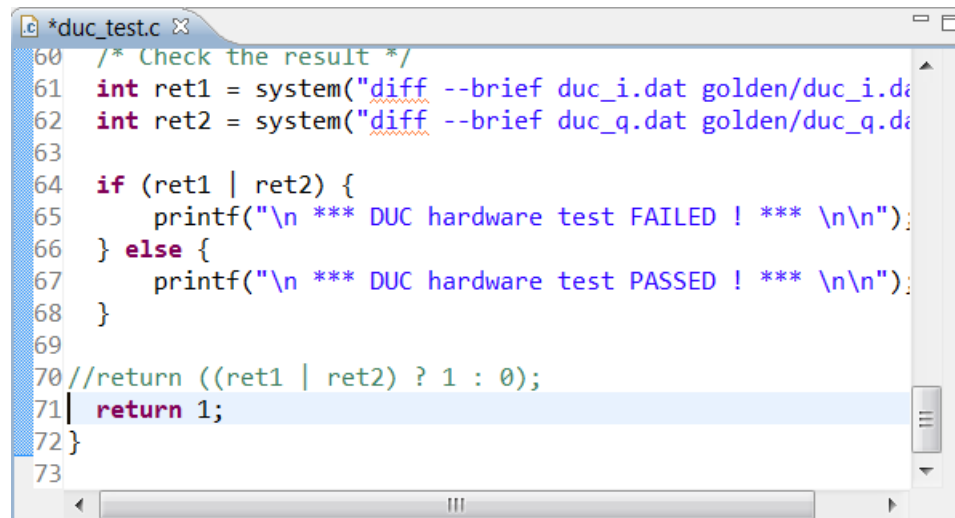

Figure 8-8: Modified RTL Test Bench
3. Scroll to the end of the file to see the code shown in Figure 8-8.
4. Edit the return statement to match Figure 8-8 and ensure the test bench always returns the value 1.